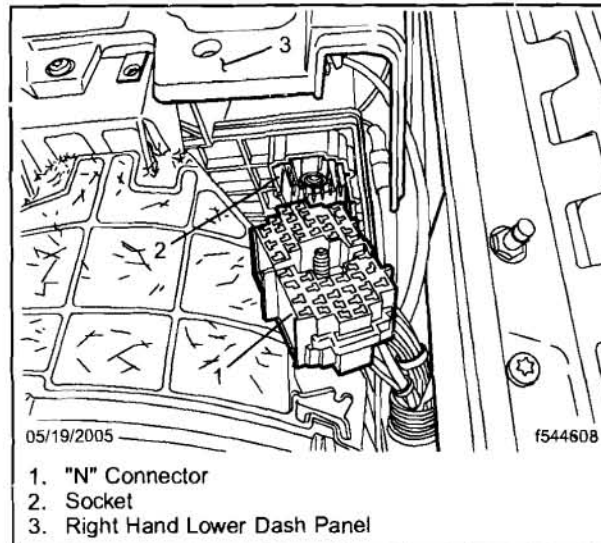

Fig. 1, View From Underneath the PDM
- 1.6 From underneath, remove the "N" connector from the bottom of the PDM (a 9/32-inch socket is required). See Fig. 1. Inspect the pins and sockets of both the PDM and the connector for signs of corrosion.